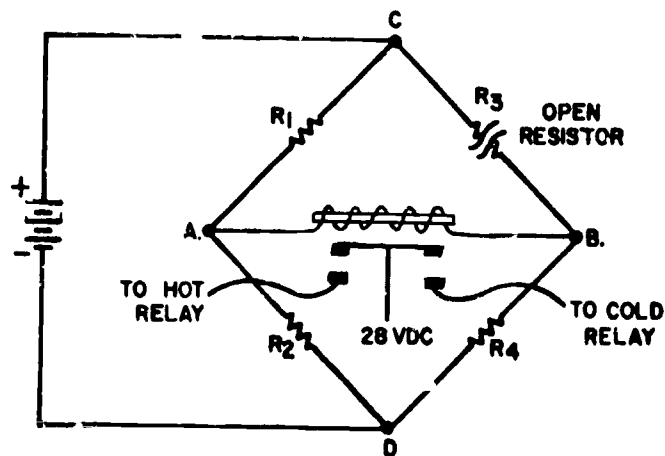

Figure 13.
(1) Using a green pencil and the Z pattern, trace from point D up to point A. So far the circuit looks ok., now trace across from point A to point B then up to the broken path (resistor R-3) of the circuit.
(2) At this point the circuit has an incomplete path and current could not flow on to point C or anywhere. (You must have a complete path for current to flow.) Seeing how you don't have a complete path from this point to C and on to positive, there is NO ACTION on the micropositioner coil and it remains in the neutral position (neither relay on).
(3) So now you must go back to point D and start the Z pattern in the opposite direction. Use figure 13 shown below, in this procedure.